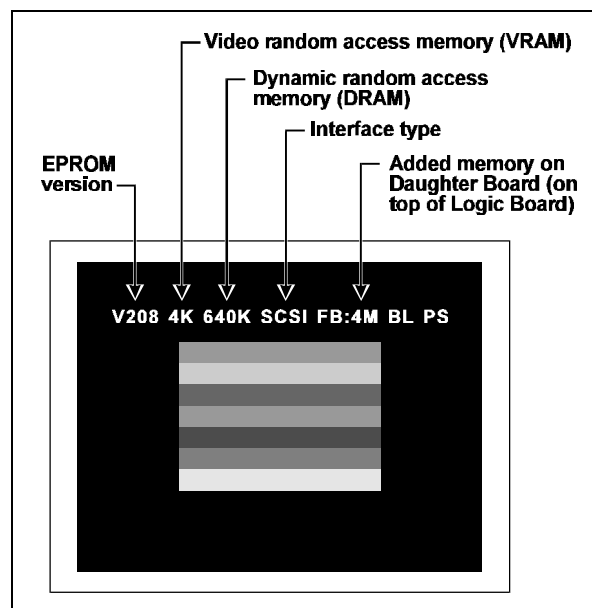

Figure 6-8. Typical CI-5000 Test Image
7. View the test image to verify that it printed seven color bars (red at top, white at bottom) and the configuration information as shown in Figure 6-8.